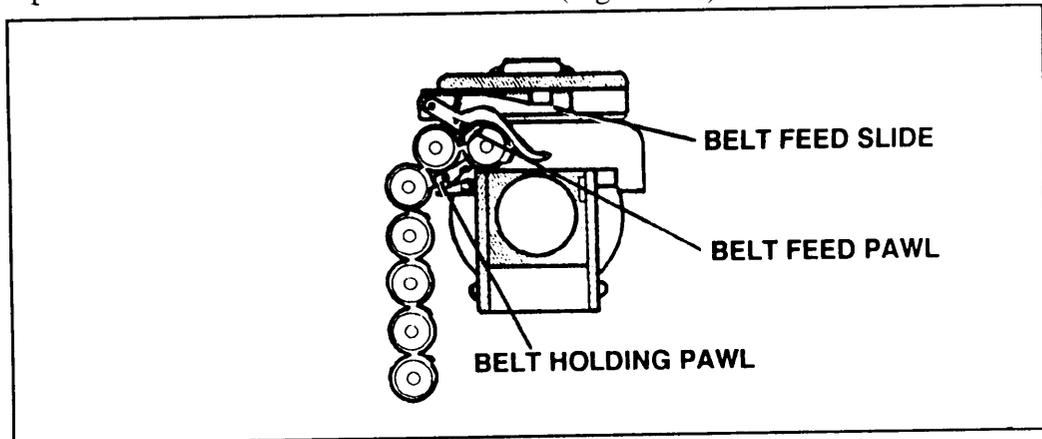

Figure 3-6. Feeding—step 2.
(1) As the bolt is moved to the rear, the belted ammunition is moved over and then held in a stationary position by the belt-holding pawl. At the same time, the belt-feed pawl rides up and over the link, holding the first round in place. When the bolt is all the way to the rear, the belt-feed slide moves out far enough to allow the belt-feed pawl spring to force the pawl up between the first and second rounds (Figure 3-6).